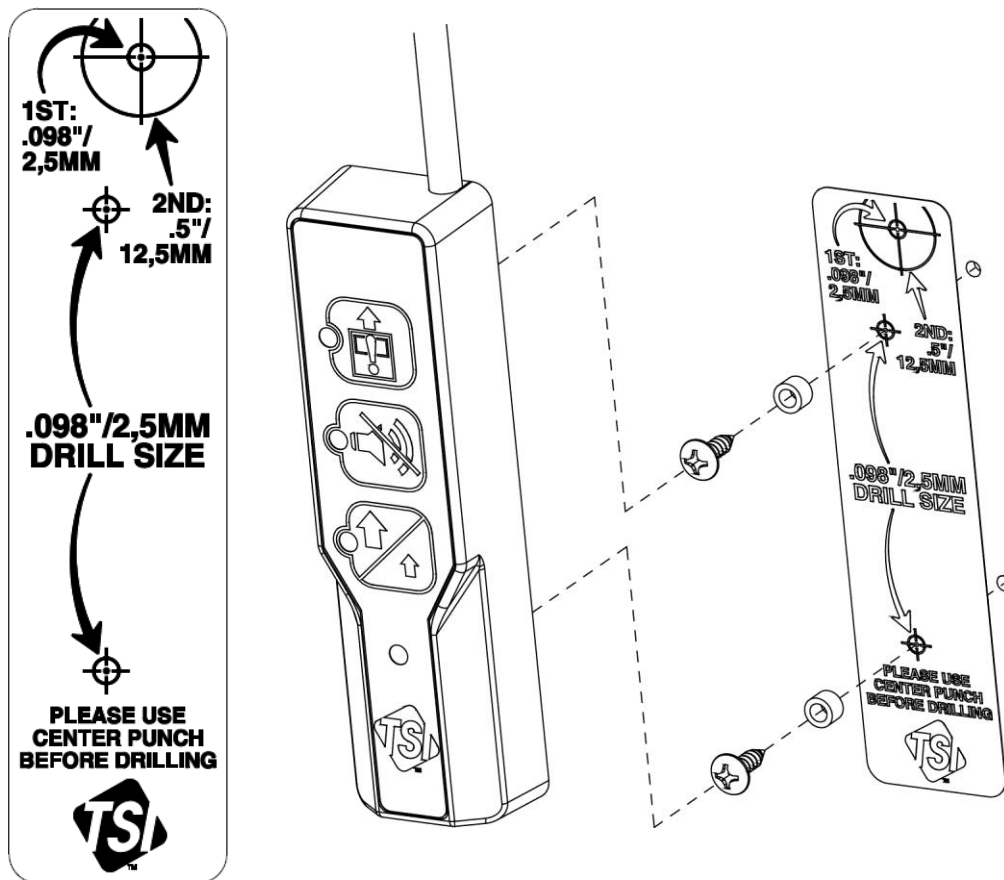

Figure 3: Mounting FHS5 with Cable Routed Inside the Fume Hood Panel
1. Remove the FHS5 Template Sticker backing and apply sticker to the fume hood front panel in the desired mounting location, making sure the Template Sticker is level and centered in the desired location (Figure 3).
2. Following the instructions on the template (using a center punch to mark hole locations prior to drilling), drill the designated holes in the fume hood front panel (Figure 3). Since the cable is to be routed along the outside of the fume hood front panel, drilling the large hole for the cabling can be omitted.
3. Attach the supplied spacers and mounting screws to the fume hood front panel (Figure 3).
4. Break off the tab at the top of the FHS5 case, to allow the cabling to route straight up along the fume hood front panel (Figure 3).
5. Align the FHS5 on the mounting screws, push forward until flush with the fume hood, and slide the FHS5 down to secure in place (Figure 3).
1. Break off the tab at the top of the FHS5 case, to allow the cabling to route straight up along the fume hood front panel (Figure 3).